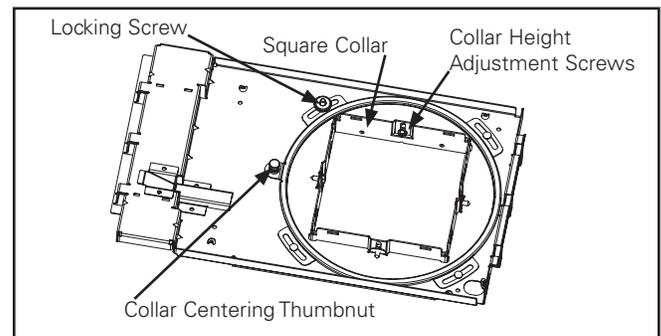

Figure 8.
**Height** - Loosen the collar height adjustment screws and adjust the plaster frame collar flush with the finished ceiling. When the plaster frame collar is flush to within 1/8" of the finished ceiling, tighten the collar adjustment screws. (Figure 8.)
- To install an extended depth collar, remove the collar height adjustment screws (Figure 8.). Remove the collar, noting the orientation. Insert the extended depth collar in the same orientation and reinstall the collar height adjustment screws. Adjust the extended depth collar flush to within 1/8" of the finished ceiling and tighten the collar height adjustment screws.